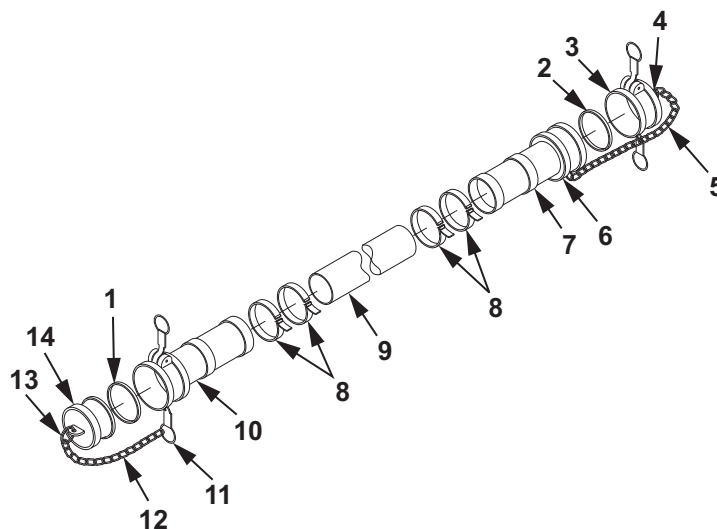

Figure 5. 4 X 10 Ft Suction Hose Assembly Repair.
12. Using a multimeter, perform continuity test between male and female coupling assemblies (Figure 5, Item 10, 7) at each end of the hose assembly to ensure ground wires are firmly seated. Continuity must exist.